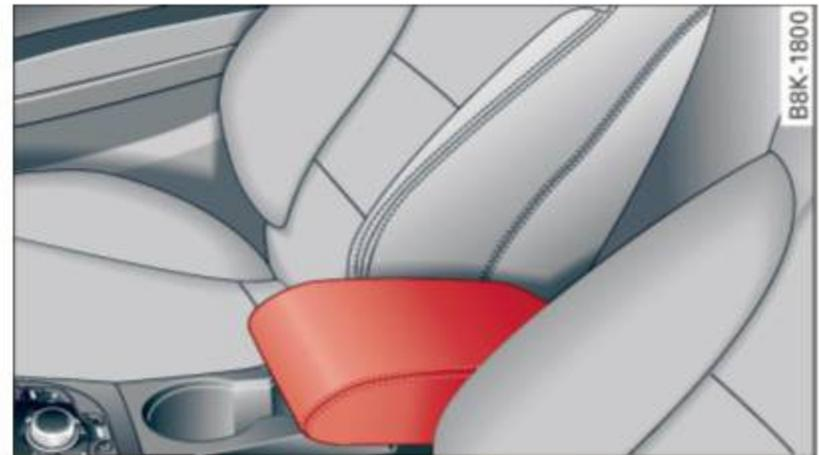

Fig. 60 Armrest between the driver's/front passenger's seats.
- ▶ To adjust the angle, raise the armrest from the starting position ⇒ *fig. 60* detent by detent.